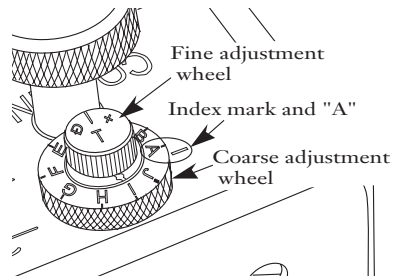

Figure 8
5.5 Turn both the top and bottom FINE adjustment knobs counterclockwise to their lowest setting, the “minus” signs (Figure 8).